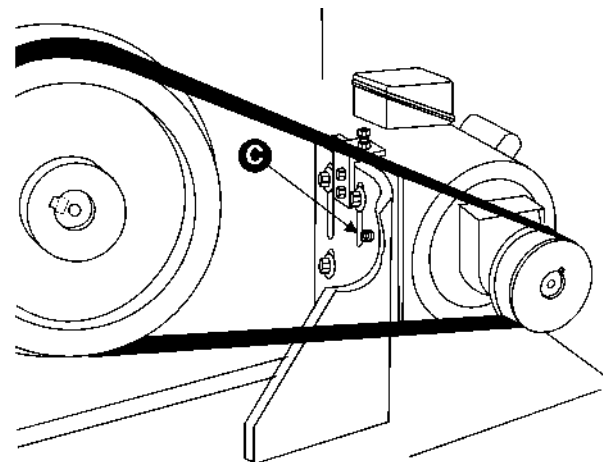

FIGURE 14
If the drive belt is not aligned properly, adjust the set screw (C) on the motor plate in or out as necessary. See Figure 14.